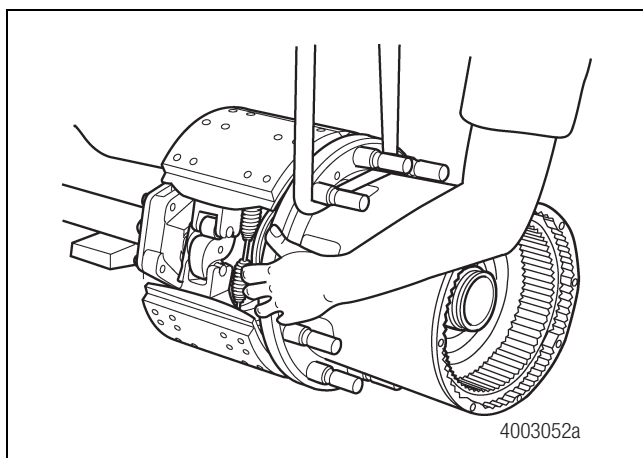

Figure 3.16
1. Use a lifting device to remove the wheel hub and ring gear hub assembly as a unit. Figure 3.16.